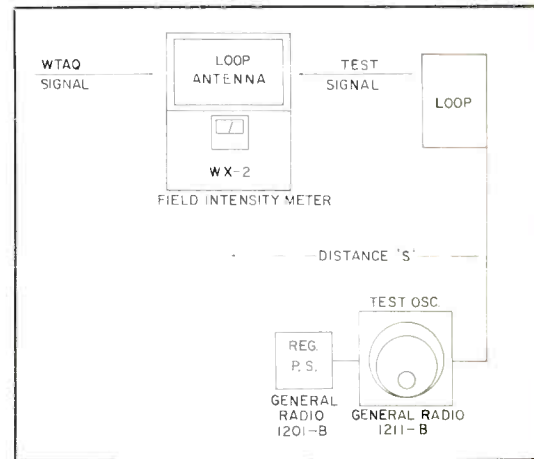

Fig. 3. Test setup for plotting curves.
Fig. 3 shows a block diagram of the equipment setup employed. For the experiment WTAQ provided one signal, and a General Radio oscillator Type 1211-B, the other. The signal from the oscillator was radiated from a loop antenna. By adjusting the distance (S) from the field intensity meter to the loop, any desired signal level could be produced. The field meter was